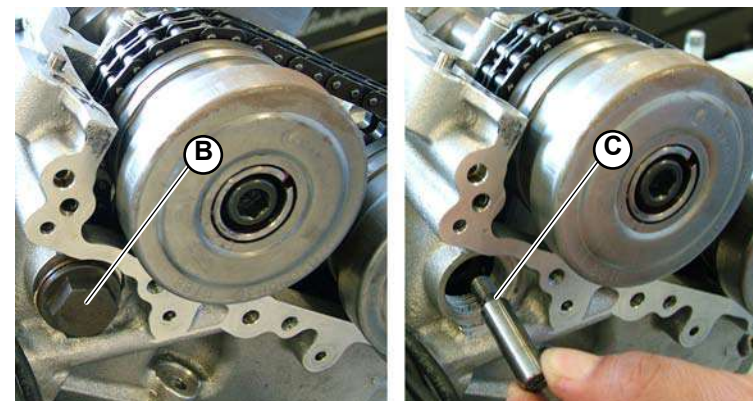

Fig.4
2. Remove the cap (B-Fig.4) to access and unscrew the screw (C-Fig.4).